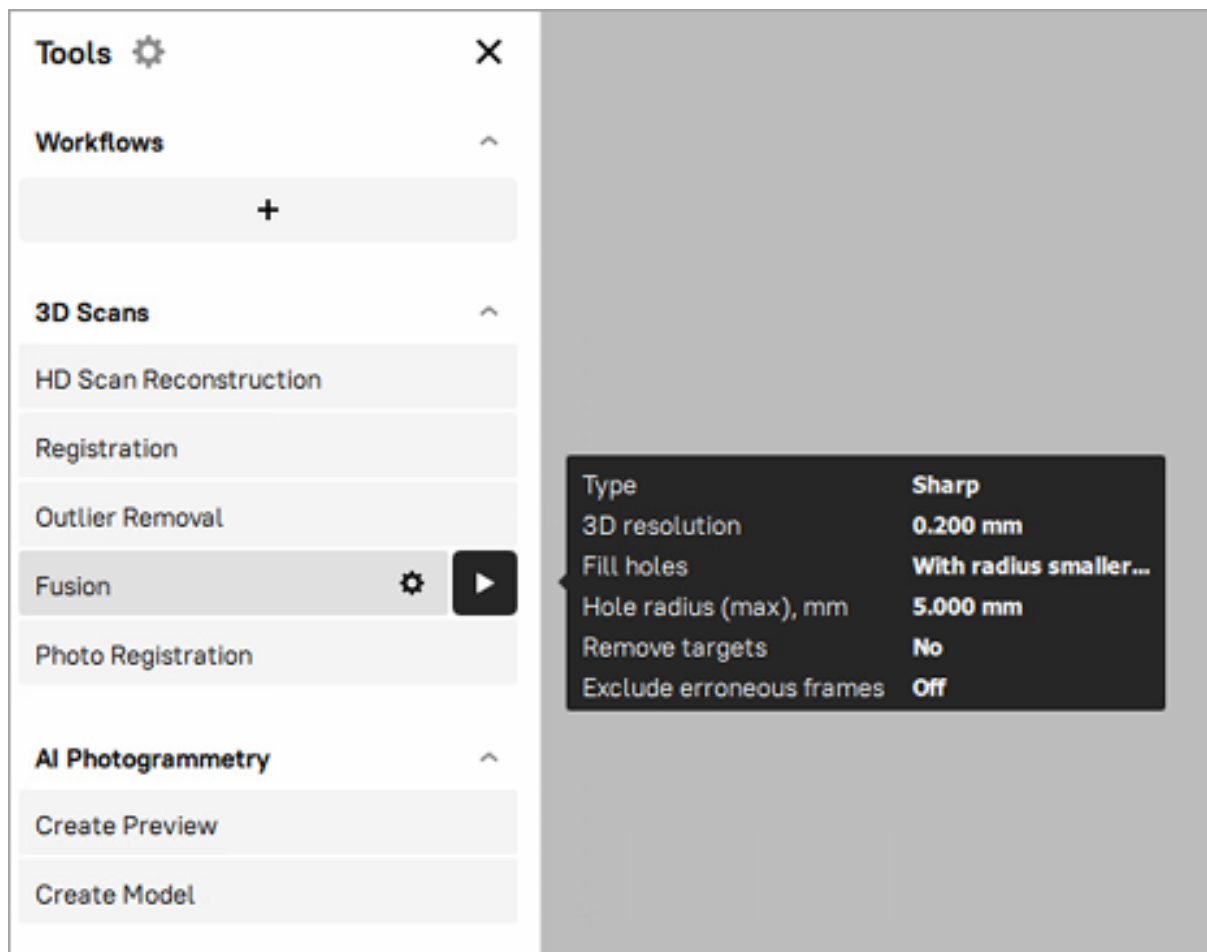

Figure 153: The *Fusion* pop-up with the default parameters.
4. Hover the mouse cursor over the *Fusion* label in order to activate the controls of the tool and the pop-up with the default parameters (see Figure 153).